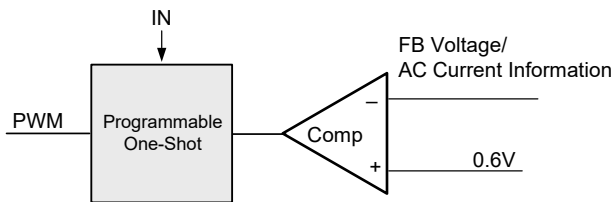

Figure 3. Simplified Control Schematic of AOZ2263NQI-11
The simplified control schematic is shown in Figure. 3. The high-side switch on-time is determined solely by a one-shot whose pulse width can be programmed by one external resistor and is inversely proportional to input voltage (IN). The one-shot is triggered when the internal 0.6V is higher than the combined information of FB voltage and the AC current information of inductor, which is processed and obtained through the sensed lower-side MOSFET current once it turns-on. The added AC current information can help the stability of constant-on time control even with pure ceramic output capacitors, which have very low ESR. The AC current information has no DC offset, which does not cause offset with output load change, which is fundamentally different from other V^2 constant-on time control schemes.